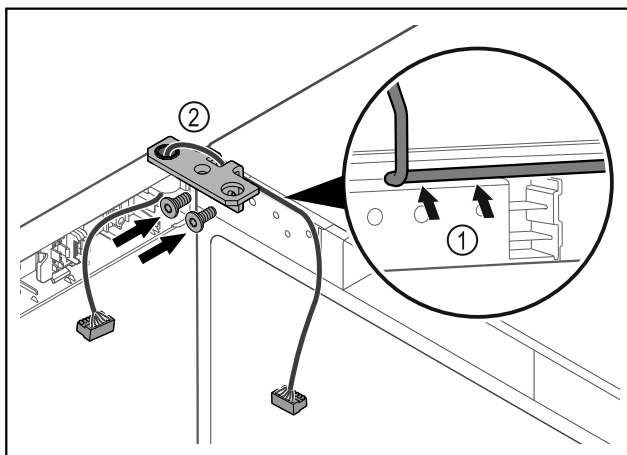

Fig. 52
- Feed the cable through the recess in the hinge and lay it carefully Fig. 52 (1).
- Screw on the hinge Fig. 52 (2).